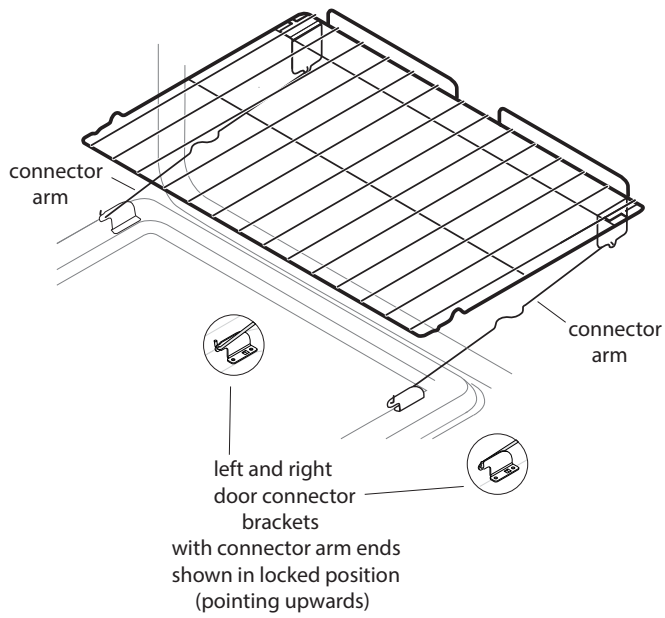

Figure 19: Effortless™ oven rack after assembly
5. While holding the connector arm in place, twist the connector arm so the ends of the connector arm point upwards (Figure 19). The connector arm should now be locked into position.